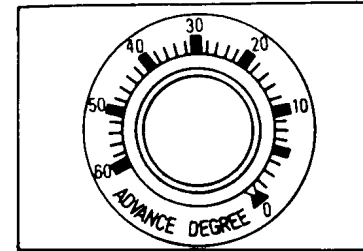

Figure 3
1. Set the knob at “0” position as figure 3.